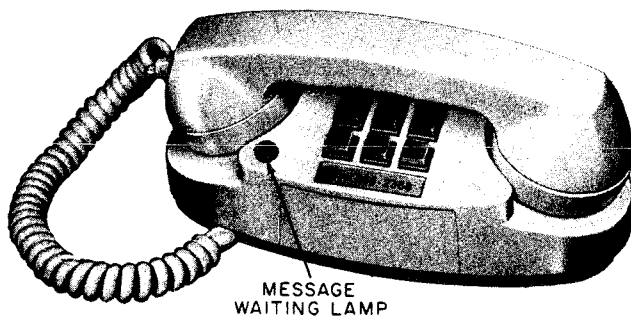

Fig. 2 — 2702D Telephone Set
- **Message waiting lamp:** 2702D set — visual signal, under control of a PBX attendant, indicates an uncompleted incoming call (Fig. 2).